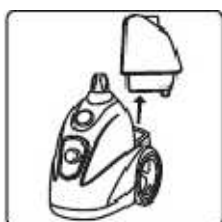

fig.10
1. Ensure that the steamer is unplugged. Remove the water tank from the base of the appliance by pulling the handle upwards. (fig.10)